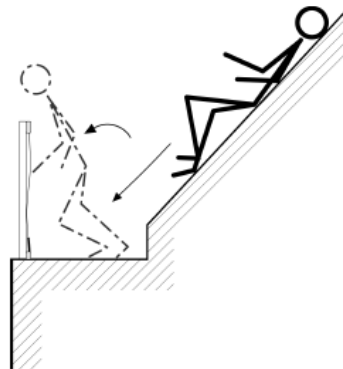

Bild A.4 — In den Seitenschutz rutschen und stolpern
- If the railing system is installed on an approved sloped surface ($\leq 10^\circ$) with a small distance to a steeper sloped surface ($> 10^\circ$), the risk of materials or persons falling from the steeper surface onto the railing system must be assessed. In such situations, a different protection class according to DIN EN 13374 may be decisive, in which case the HYGHTS railing system would not be permissible. See Figure A.4 [from DIN EN 13374:2025-09]